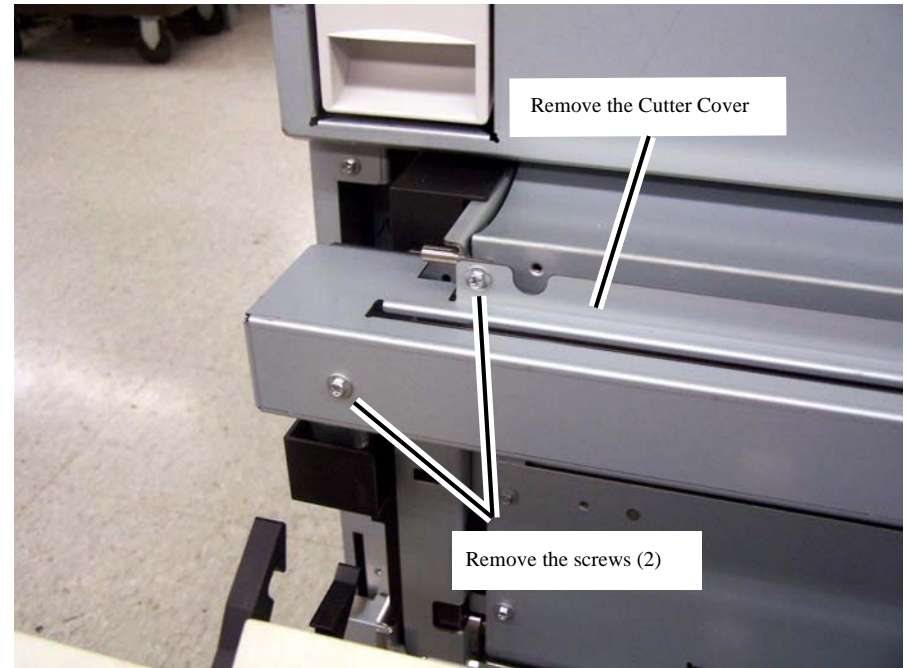

Figure 4 Removing the Cutter Cover left hand screws
- c. Remove the screws (2) at the left end of the Cutter Cover (Figure 4).